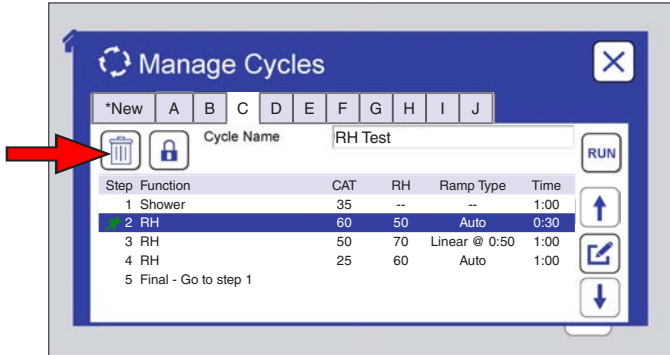
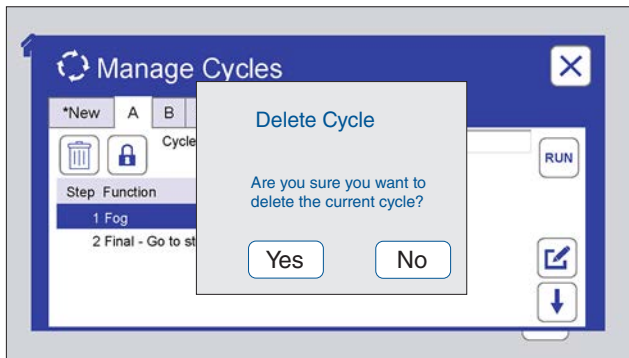

Figure 9.6.2a: Touch the Delete icon to delete the selected cycle.
Figure 9.6.2c: To delete an inactive cycle, the operator is prompted for verification. Touch No to cancel delete. Touch Yes to create a blank cycle.
- o Delete a cycle (Figure 9.6.2a through Figure 9.6.2c).